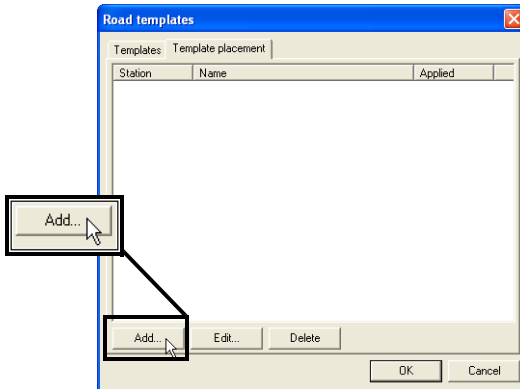

Figure 6-12. Place Road Templates
1. Click **Alignment** ► **Templates** and click the Template placements tab. Then click **Add** (Figure 6-12).